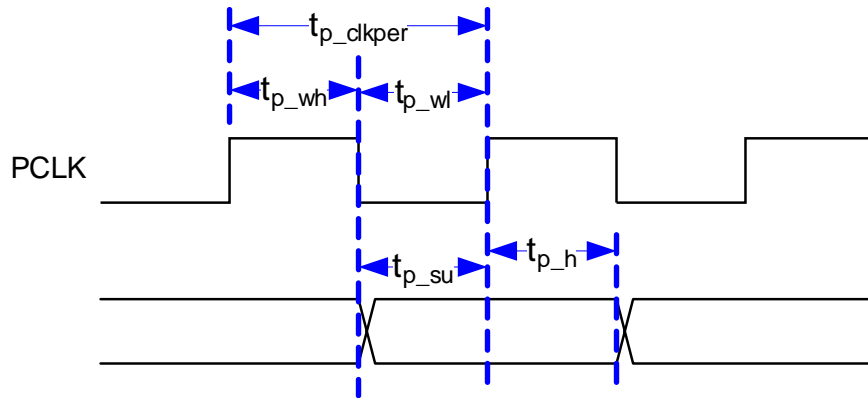

Figure 2. Parallel and BT.656 I/F General Timing
(1) The BT.656 I/F accepts 8-bit per color, 4:2:2 YCb/Cr data encoded per the industry standard though PDATA(7:0) on the active edge of PCLK (that is, programmable) as shown in Figure 2.
(2) Clock jitter should be calculated using this formula: Jitter = $(1 / f_{\text{clock}} - 28.35 \text{ ns})$. Setup and hold times must be met during clock jitter.